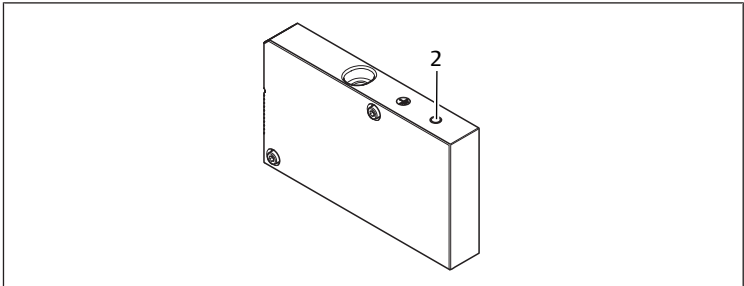

Fig. 8: FE connection
1. To discharge EMC interferences, connect the FE connection (2) on the left end plate to the functional grounding via a low-impedance line. See → Fig. 8. Recommended cable cross-section: 10 mm².